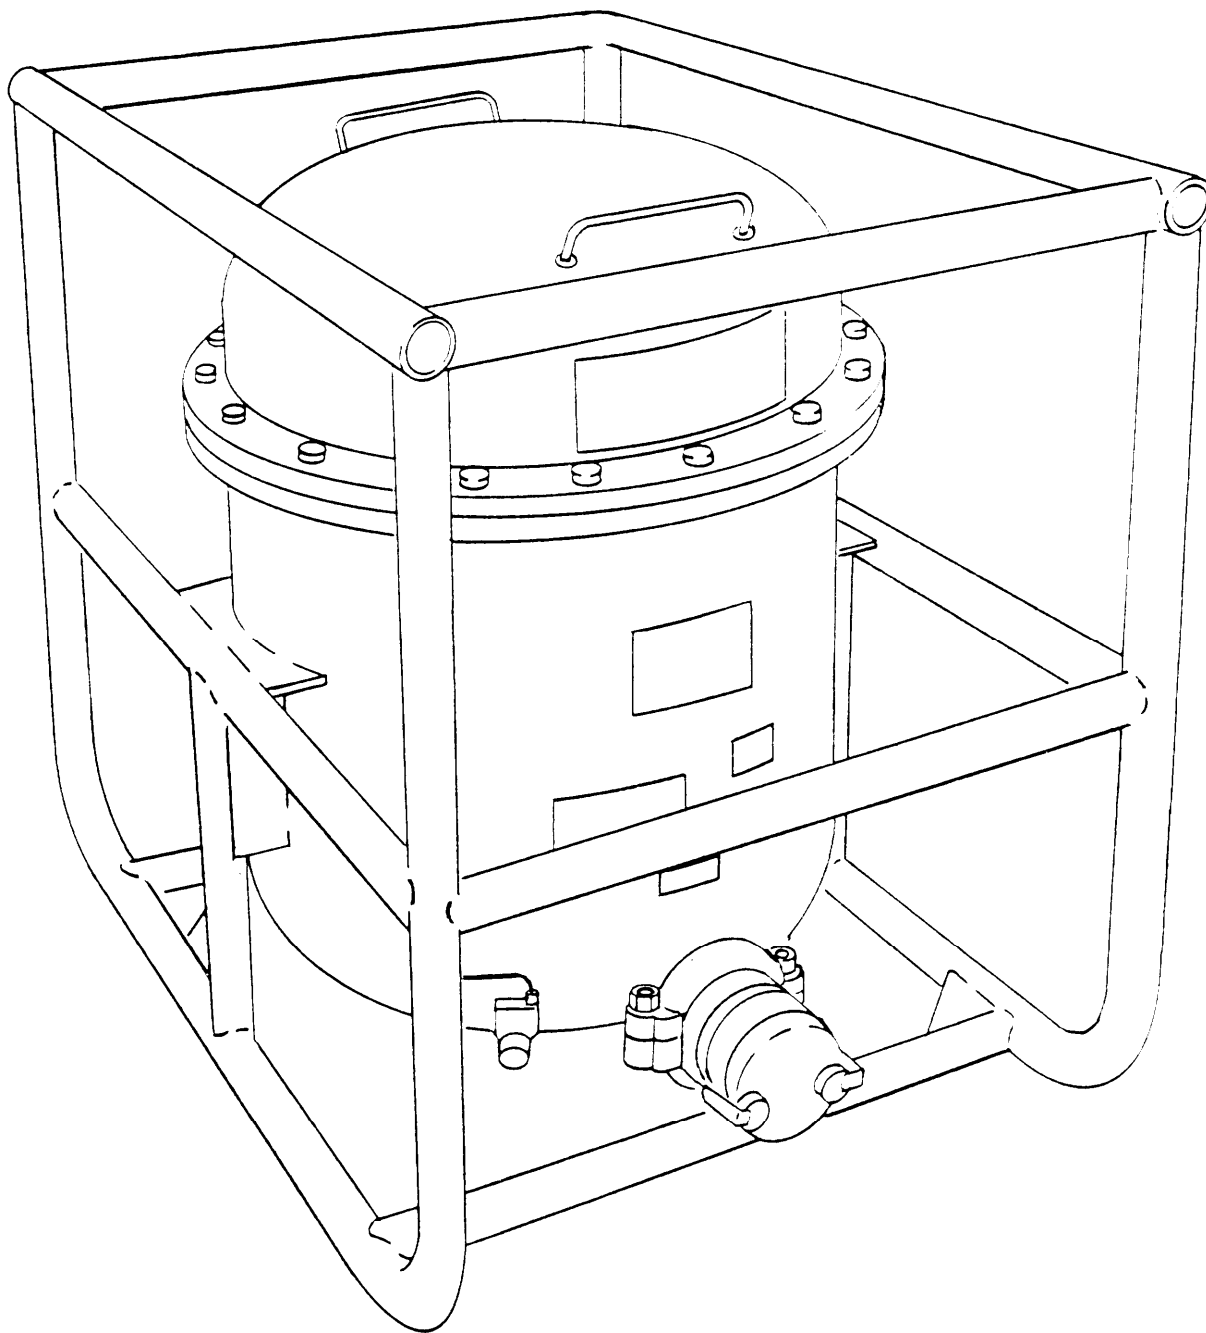

Figure 1-4 . Filter/Separator, 350 Gal/on Per Minute Capacity.
b. Filter/Separator (figure 1-4). Two 350 gpm filter/separators may be connected in parallel on the delivery side of the system to remove entrained water and solid contaminants from fuel before it is dispensed into vehicles or containers.